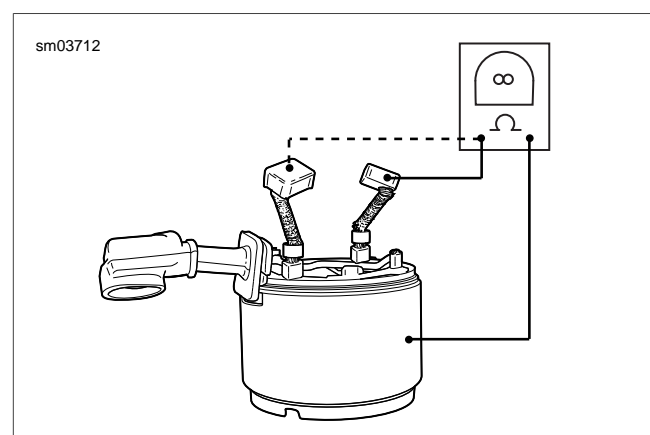

Figure 1-15. Grounded Field Coil Test
3. See Figure 1-15. Check for a grounded field coil winding with an ohmmeter or continuity tester.